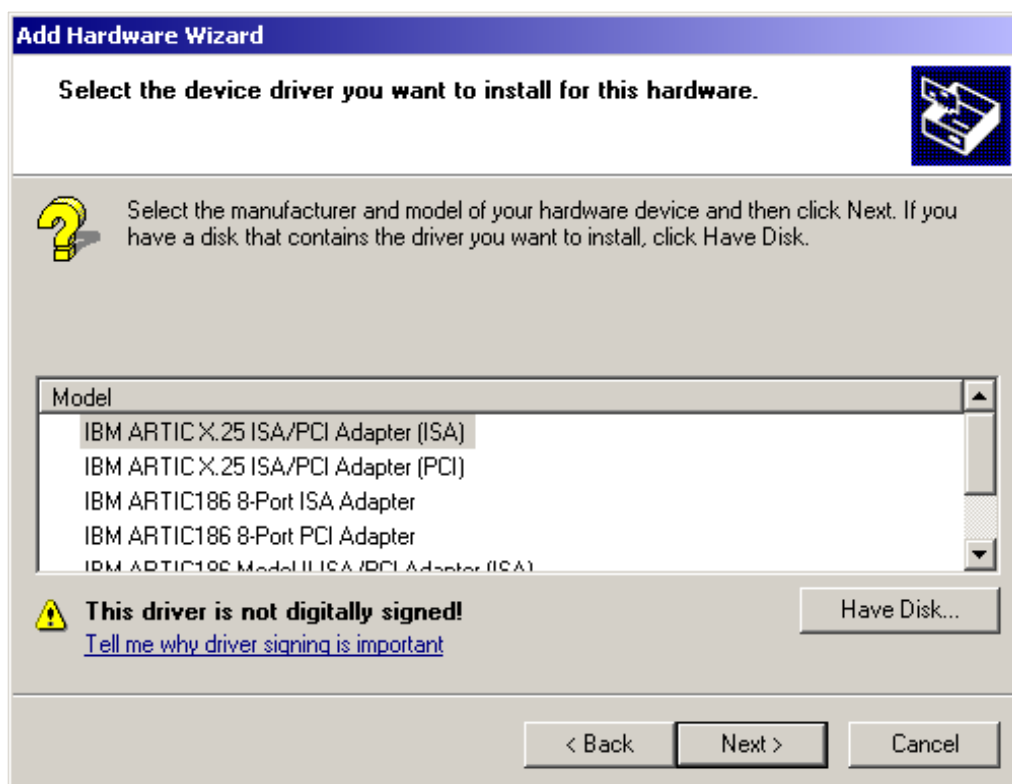

FIGURE 194. Device driver installation window
25. A new window will open for selecting device drivers as seen in Figure 194.